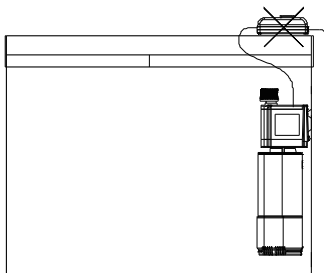

Fig.1
- Look at the picture on the box of the UV assembly. Attach the UV Lamp Assembly to the aquarium. Control box placed outside the tank. (Fig.1)